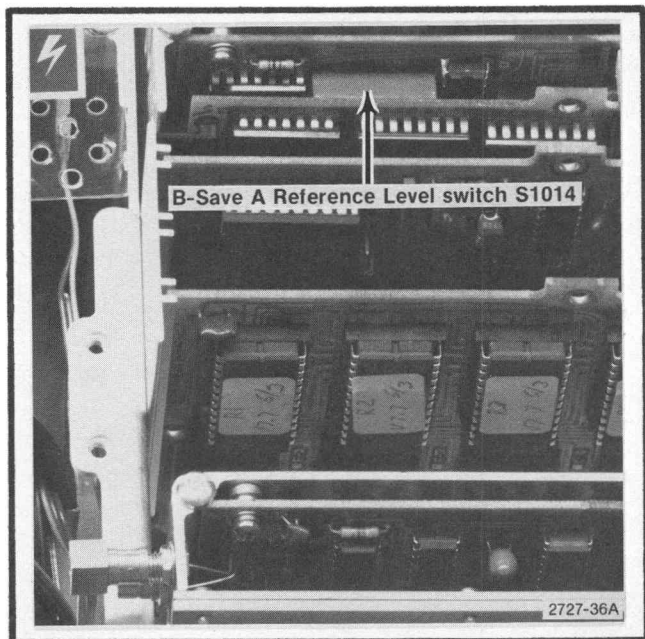

Fig. 3-48. Location of binary switch (S1014) for setting B—SAVE A reference level.
When B—SAVE A is selected, the expression implemented is (B—SAVE A) — k where k is a constant set by the input data for an 8-to-4 line encoder, U1015. Each bit will move the reference level about 0.2 minor division. Normally, the reference level is set at the center graticule line; however, it can be set anywhere within the graticule area by the setting of an 8-bit binary switch, S1014 (Fig. 3-48). The MSB (switch #8) shifts the display about five divisions, switch #7 half this amount, etc. The following procedure sets the reference level.
b. Switch the POWER on and close or open the switches on S1014 (Fig. 3-48) to obtain the desired B—SAVE A reference level.
- z. Peak the 19 GHz signal with Shaper #3 (R1061) adjustment (Fig. 3-48).